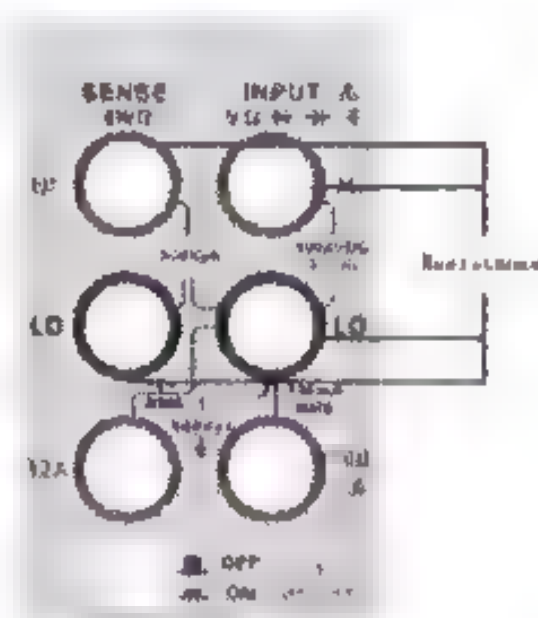

Figure 4-14 Wiring method
2. Connect the red and black test leads to the corresponding input terminals as shown in Figure 4-14